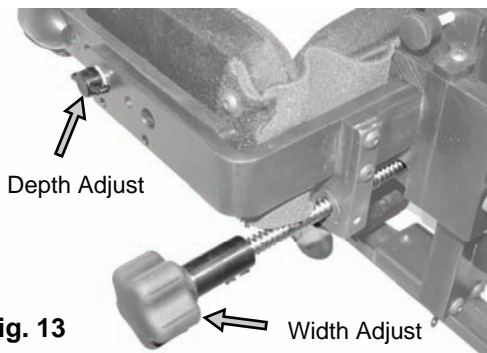

Fig. 13
- Set hip pad width to allow the client's hips to be easily placed between the hip pads by turning the knob located on the outside of the hip pad assembly (client's left side, fig. 13). Turning the knob clockwise makes the assembly wider while counterclockwise narrows the hip pad width.
- Place the client in the unit making sure to slide the client's hips as far back as possible into the *KidWalk*. Once the client is all the way back on the seat, flip the front pads down, then slide the front hip pads toward the client until they are snug and holding their hips in place. Tighten the depth adjustment knobs securely (fig. 13).